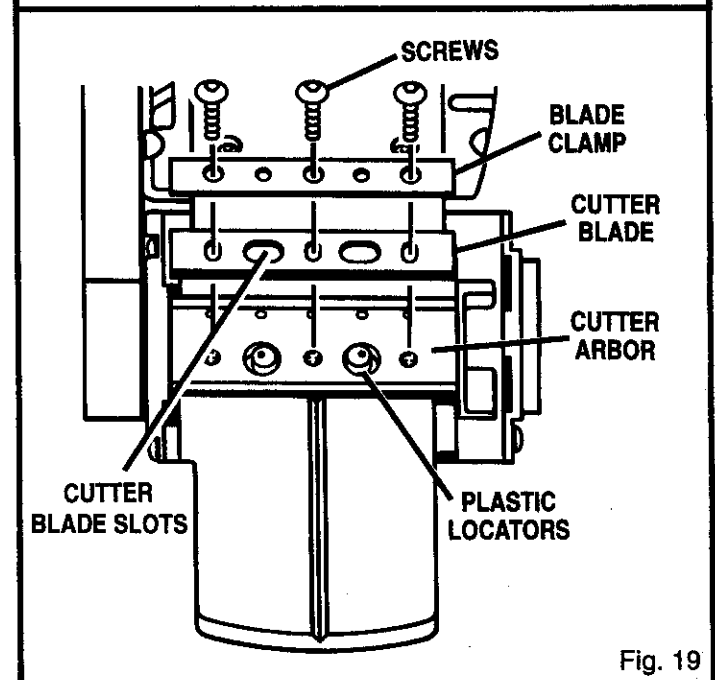

Fig. 19
4. Using the 5/32 in. allen wrench provided, remove the three (3) screws securing blade. *See Figure 19.*